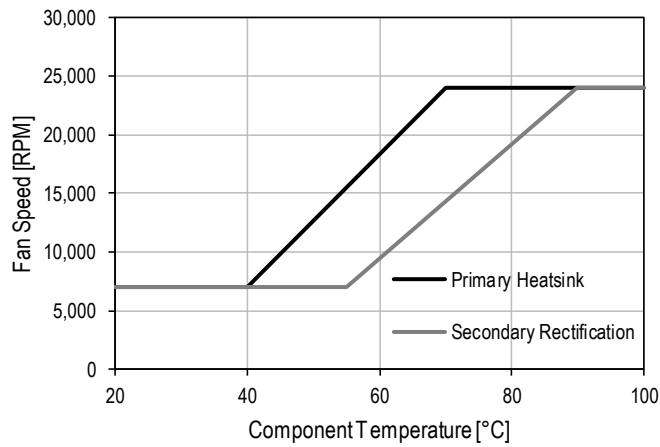

Figure 8. Fan speed versus power stage temperatures
- Component depending Fan Speed curve according to *Figure 8*.